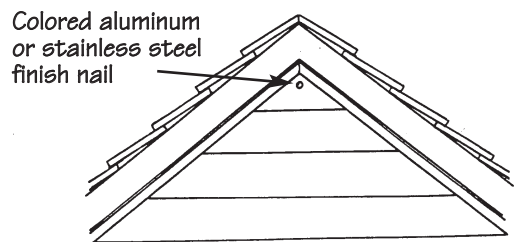

Figure 44.
- It may be necessary to fasten the last panel at the gable peak with a trim nail. Use a 1 1/4" to 1 1/2" nail. This is the only time a nail should be placed in the face of the vinyl siding (Fig. 44).